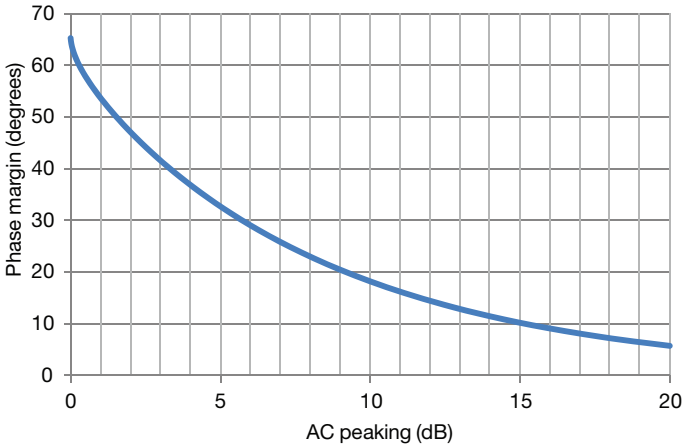

Figure 45: Stability – phase margin vs. peaking for a two-pole system
- Use AC peaking in decibels to determine phase margin using Figure 45